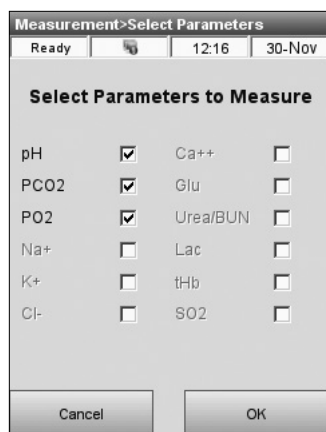

Fig. 5-5 Select Parameters
- If **<Allow User to Select Parameters>** has been enabled in **<Setup>** (see Section 3.2.2.2), the **<Select Parameters to Measure>** screen (Fig. 5-5) will be displayed and give you the option to select the results for certain parameters for the current measurement.